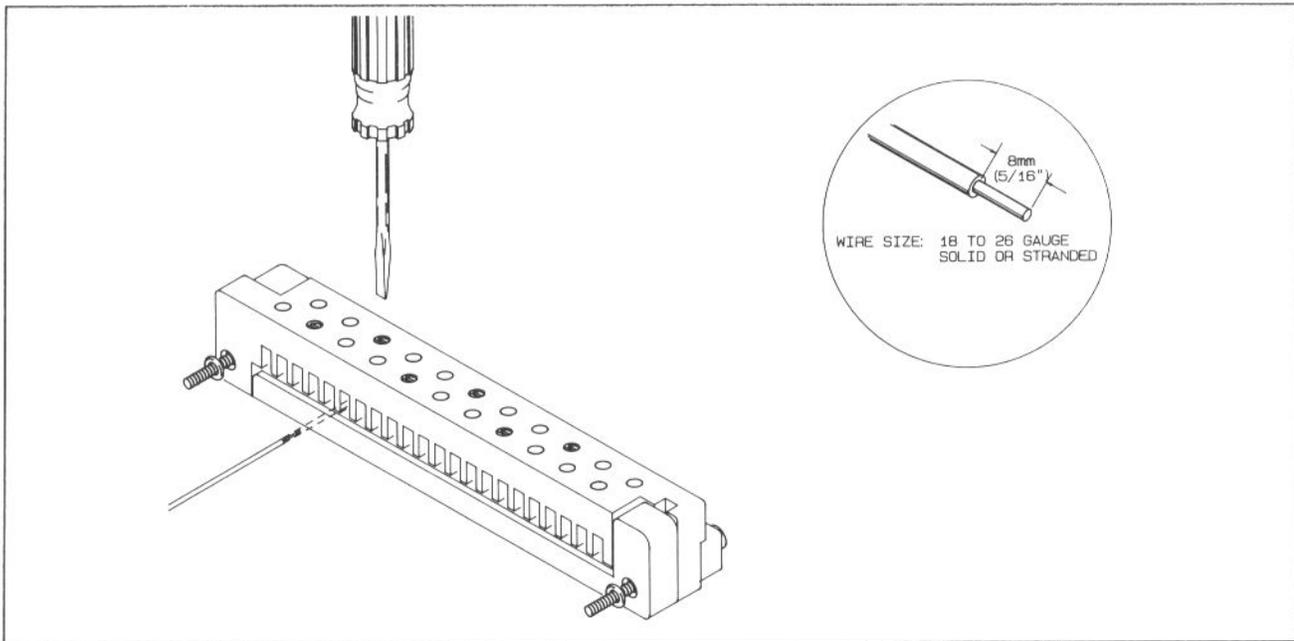

Figure 2-14. Wire Connection
- d. Loosen the appropriate retaining screw, insert the stripped end of the wire into the slot, and re-tighten the retaining screw (Figure 2-14).